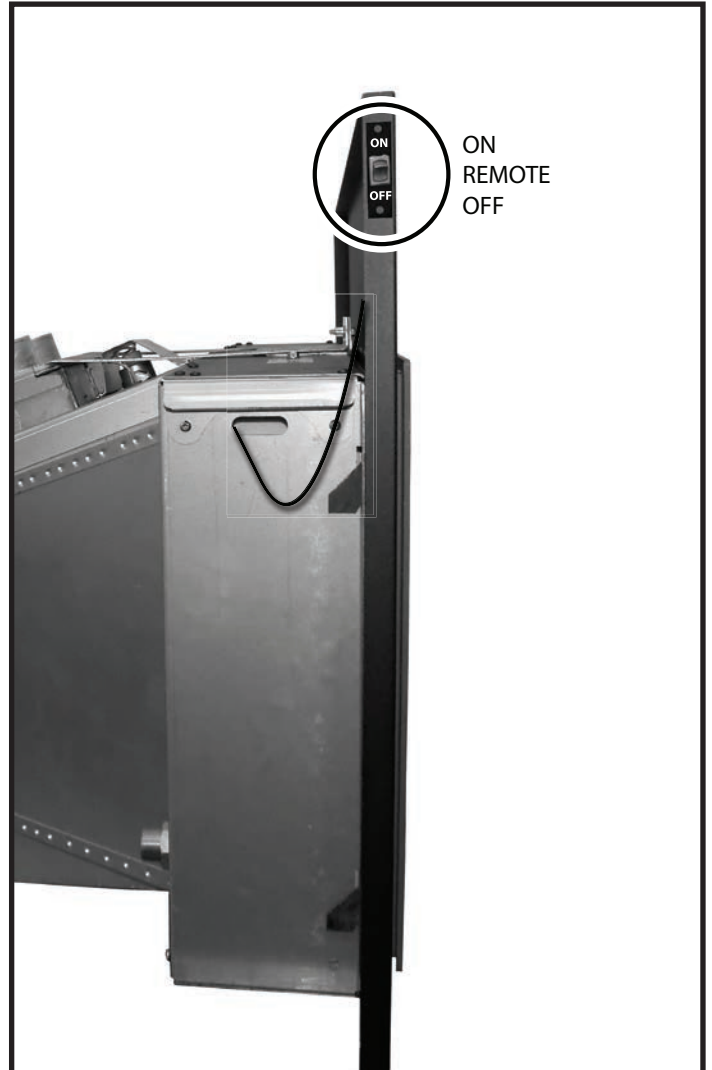

Figure 87: On Off switch for SIT units.
2. With the surround backing plate positioned in front of the fireplace, position the switch in behind the open slot in the backing plate and screw into place (Figure 87).